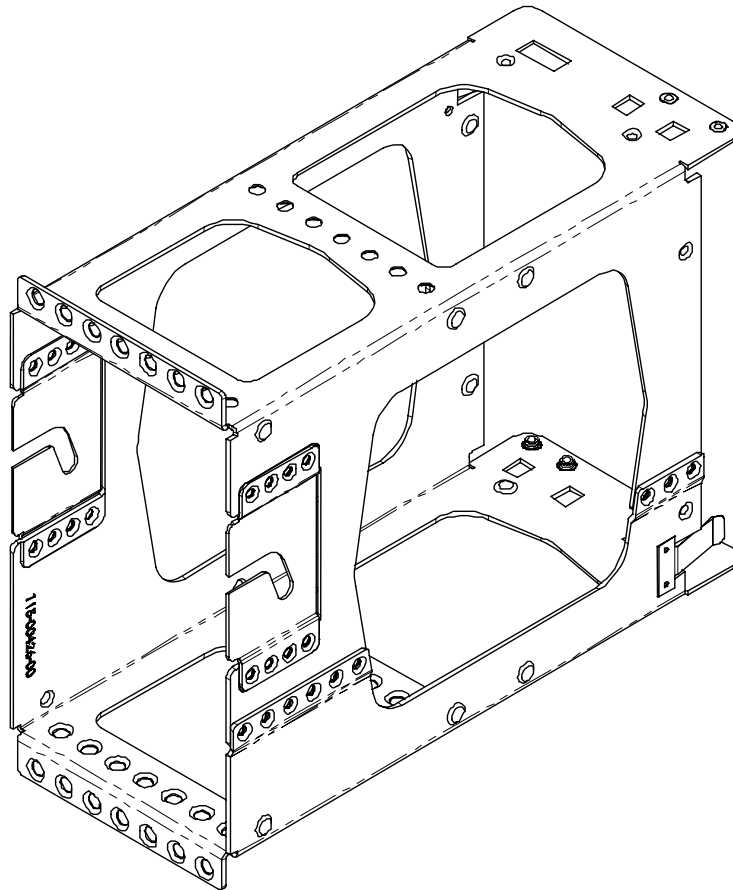

Figure 2-2 GIA 63(W) Modular Rack
Figure 2-2 and Figure B-2 show the GIA 63(W) G1000 modular rack. The modular rack is fastened to the main system rack using the nutplate kit listed in Section 2.1.2. Refer to Figure B-2 for nutplate placement locations. Figure B-1 gives the GIA 63(W) modular rack dimensions.